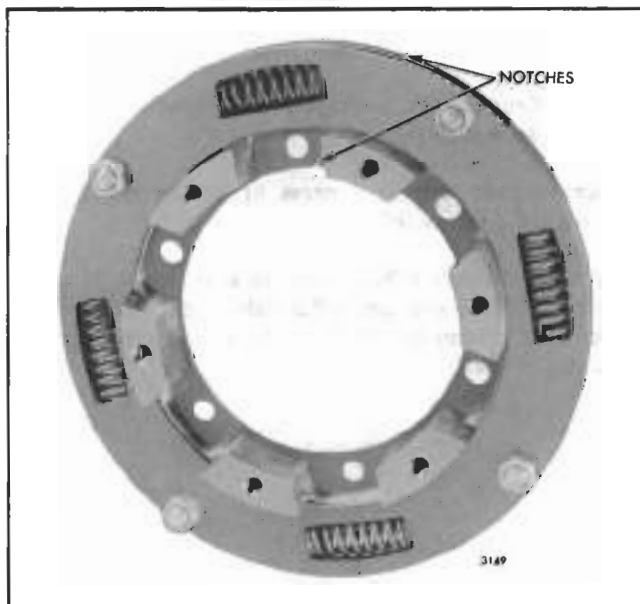

Fig. 2 - Proper Location of Notches in Damper Assembly
3. Place the hub on the inner plate with the notches in the hub and the inner plate located as shown in Fig. 2.